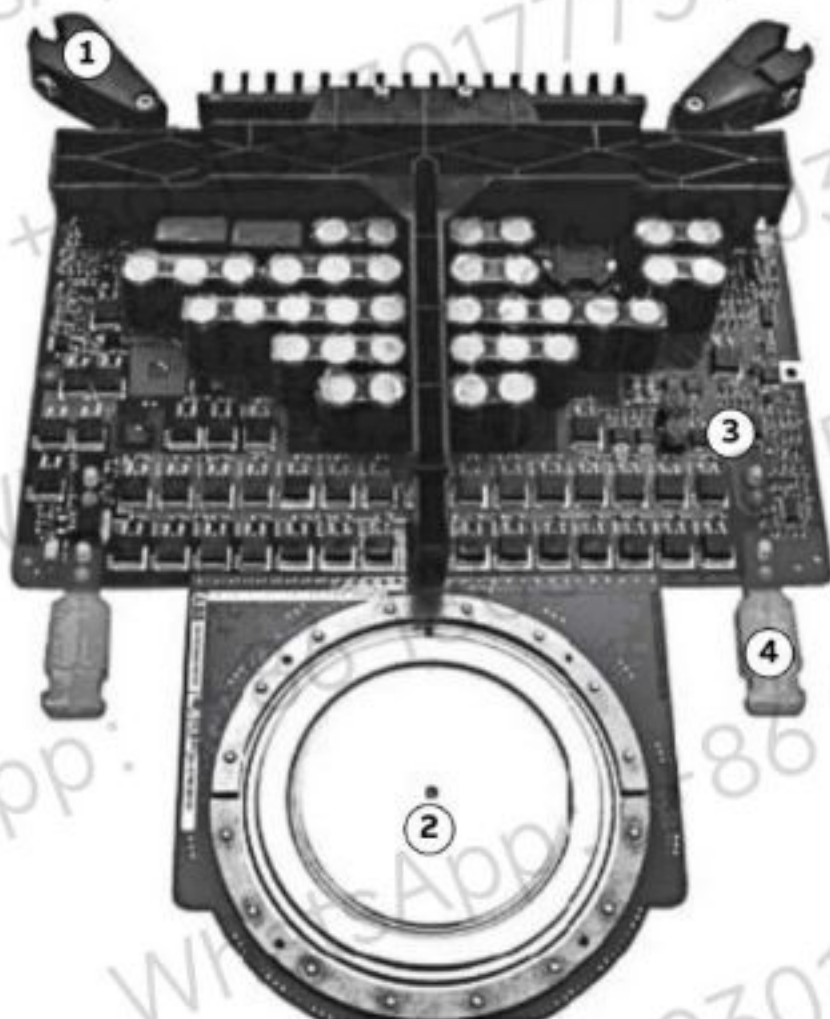

Figure 10–18 IGCT components
7. In case the new IGCT is not fitted with positioning and stop devices remove them from the faulty IGCT and use them on the new one (see Fig. 10–18).